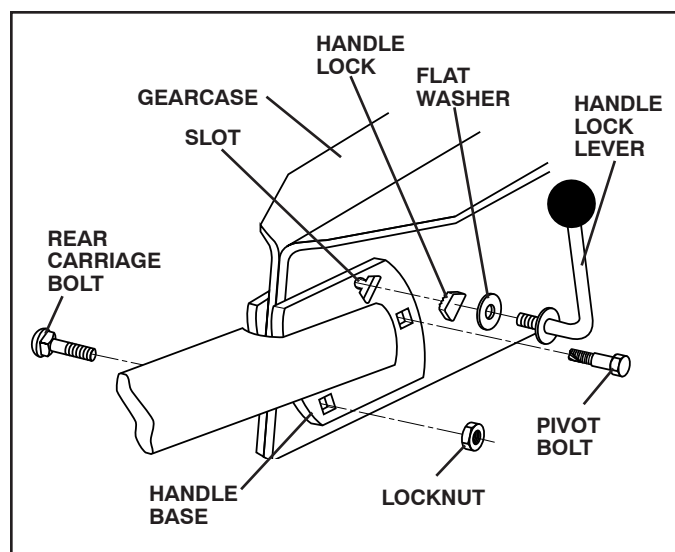

Fig. 5
- Rotate handle assembly down. Insert rear carriage bolt first, with head of bolt on L.H. side of tiller and loosely assemble locknut (See Fig. 5).